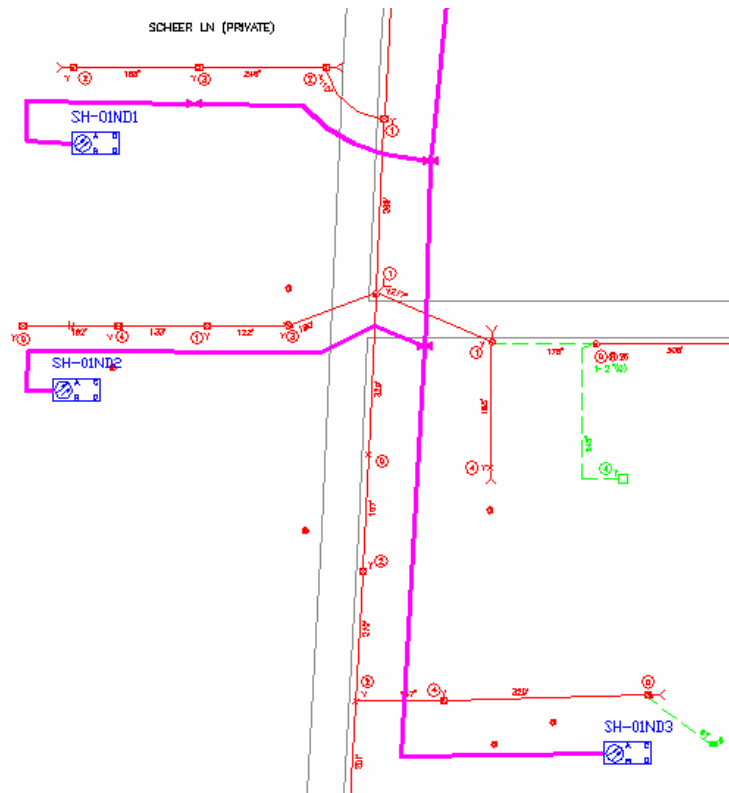

Figure 135 – Final design showing cable connected to 3 nodes.
1. Place a new node called **SH-01ND3** in the place shown in Figure 135. (Refer to page 101 for details on how to add a new node.)
6. Use the cable manipulators to realign the cable and tidy up your design, checking that it looks similar to the final design shown in Figure 135, above.